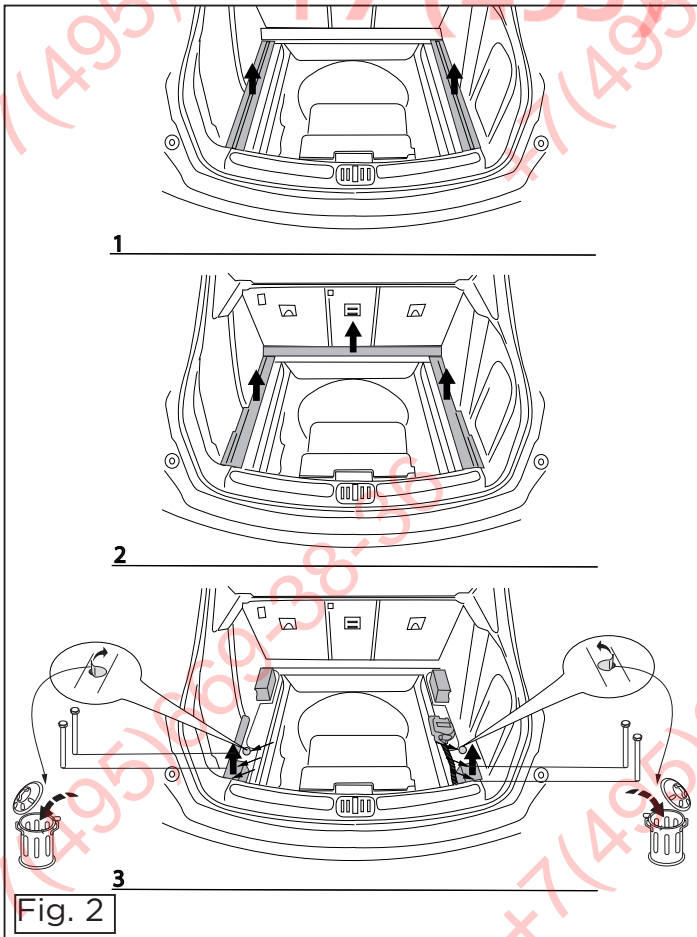

Fig. 2
2. Remove the parts indicated in figure 2.
11. Fit the removed parts indicated in figure 2.
- 11. Die in Abbildung 2 angegebenen Teile wieder montieren.